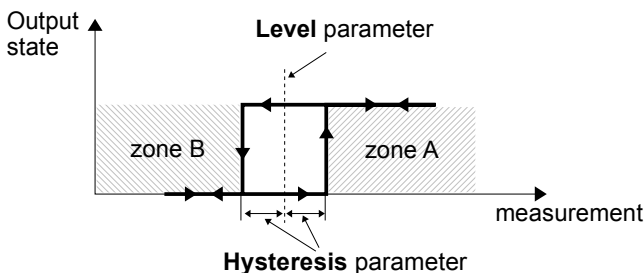

Fig. 7.81. One threshold control of the relay outputs
- **Mode** - this parameter allows the user to select the method of operation of the output, **Mode** parameter has options (see **Fig. 7.81** and **Fig. 7.82**):
Levels parameter block (see Fig. 7.81, Fig. 7.82 and Fig. 7.83)
- **Hysteresis** - defining this parameter, the user can move the level for changes in output state (see Fig. 7.81 and Fig. 7.82),